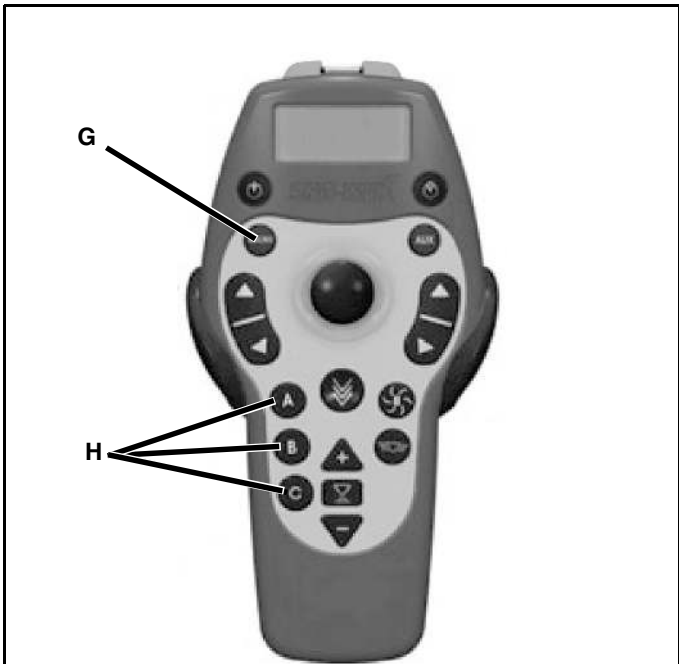

Figure 1-8
2. Locate the round button (Figure 1-8, G) that is labeled macro. Press and hold macro button for two seconds until LCD screen displays "Begin Learning."
4. Press A, B or C (Figure 1-8, H) depending on desired storage location for macro.